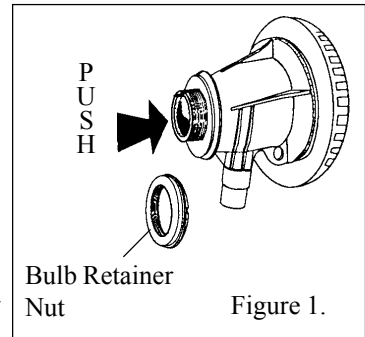

Figure 1.
1. Remove the bulb retainer nut and push the bulb assembly out from the rear of the fitting body so that it will come out of the front of the fitting. The flow director will come off along with the bulb assembly; see Figure 1. Push the red cap/plug in the end of the bulb assembly. It will be removed later.